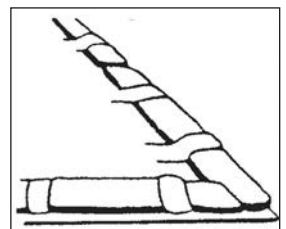

figure 4
4. Insert empty water tubes into loops. The water tubes must cover the entire perimeter of the cover to prevent wind from getting under the cover and causing the cover to billow or flap. **CAUTION:** Such billowing or flapping in the wind can cause serious damage to your cover. Therefore, be sure the water tubes are placed end to end as in figure 4.